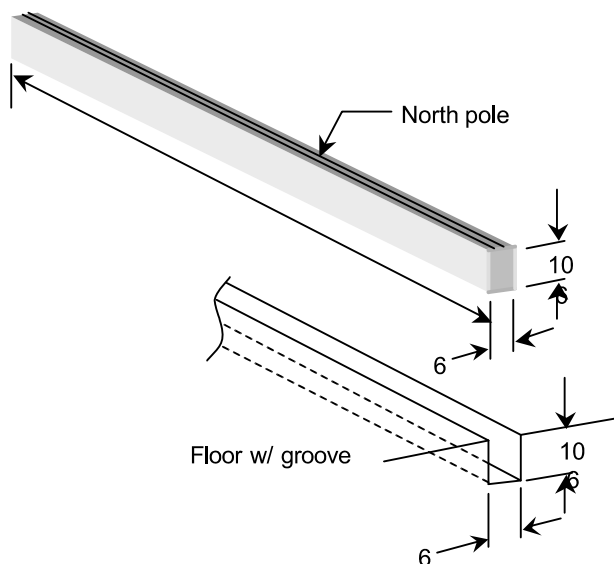

Figure 6 Dimensions of the embedded magnetic bar
2. Cut a groove (6 mm wide, 11 mm deep, see Figure 6 below) in the concrete floor along the determined traveling route using a concrete cutter.